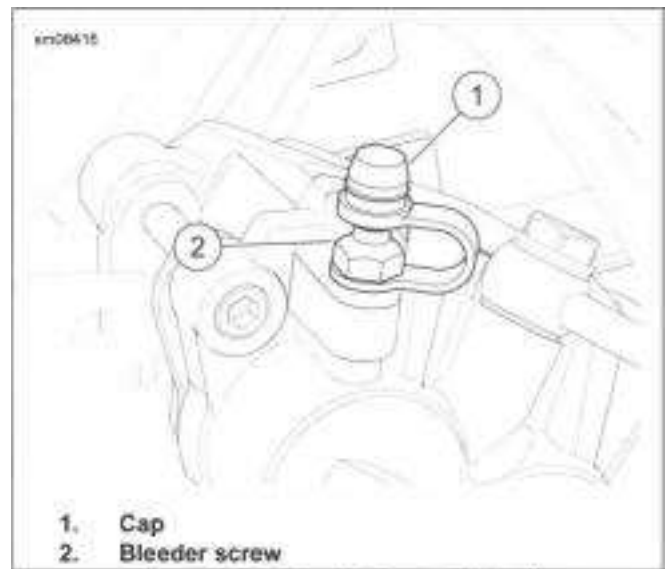

Figure 3-68. Bleeder Screw (Typical)
2. See Figure 3-68. Remove cap (1) from bleeder screw (2).